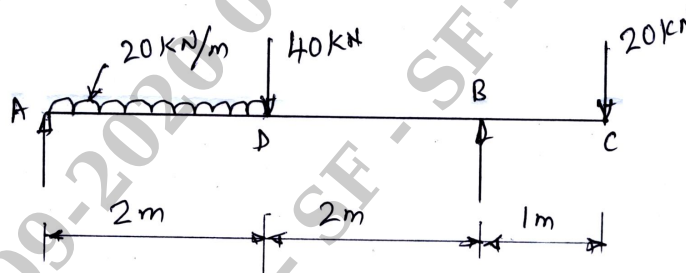

Fig.Q.5(b)
- b. Draw the shear force and bending moment diagrams for the beam shown in Fig.Q.5(b). **(10 Marks)**